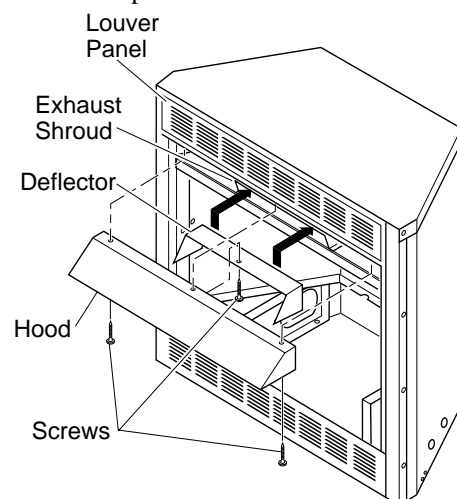

Figure 5 - Installing Deflector and Hood
3. Using Phillip's head screw provided, insert the center screw through the hood, deflector, and louver. See Figure 5.